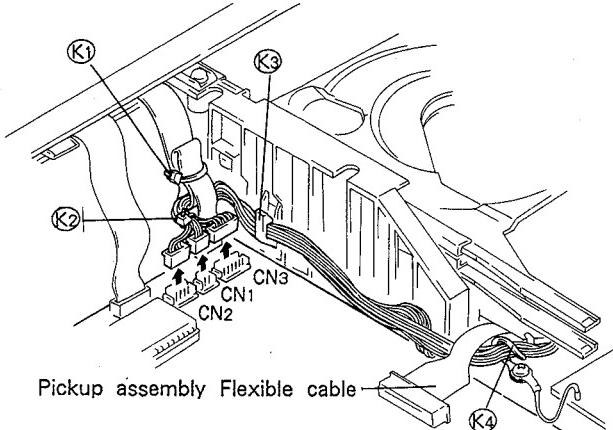
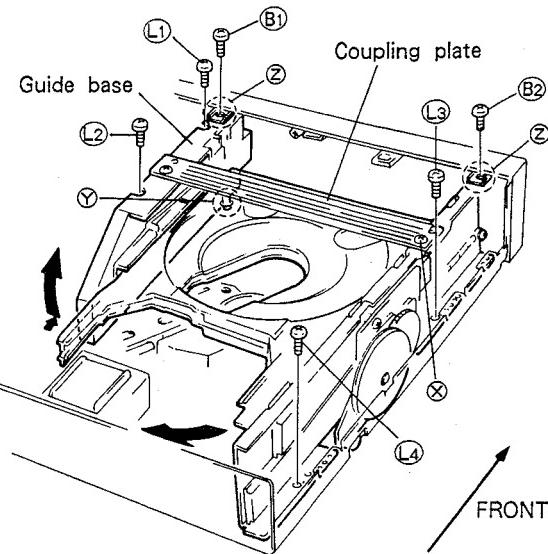

Fig. 2-4
Fig. 2-5
2. Remove 2 binders **K1** • **K2**, cable clamp section **K3** • **K4**, and CN1 through CN3 in Fig. 2-4.
4. As shown in Fig. 2-5, lift up guide-base towards the back while pushing in the front panel direction.
5. After confirming the **Y** section (Protrusion section for positioning the bottom of the guide base) in Fig. 2-5 has been removed, move the mechanism toward the rear panel by lifting up the back and making sure not to damage flexible cable (in Fig. 2-4) of the pickup assembly.